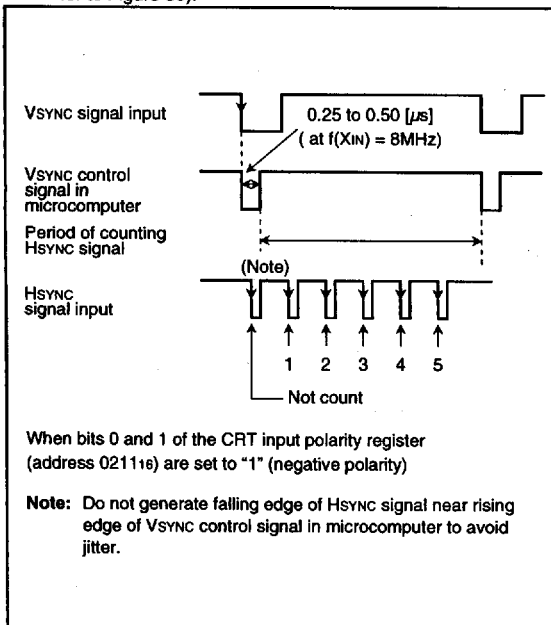

Fig. 50. Supplement explanation for display position
**Note:** When bits 0 and 1 of the CRT input polarity register (address 021116) are set to "1" (negative polarity), the vertical position is determined by counting falling edge of HSYNC signal after rising edge of VSYNC control signal in the microcomputer (refer to Figure 50).
In the following, the phase difference determination standard for the case where both the horizontal sync signal and the vertical sync signal are negative-polarity inputs will be explained. A phase difference is determined by detecting the time from a falling edge of the horizontal sync signal until a falling edge of the VSYNC control signal (refer to Figure 50.) in the microcomputer and then comparing this time with the time of the previous field. When the time is longer than the comparing time, it is regarded as out-of-phase. When the time is shorter, it is regarded as in-phase. A 1-character font can be displayed in both fields by displaying 1 dot in the out-of-phase field and displaying 1 dot in the in-phase field.